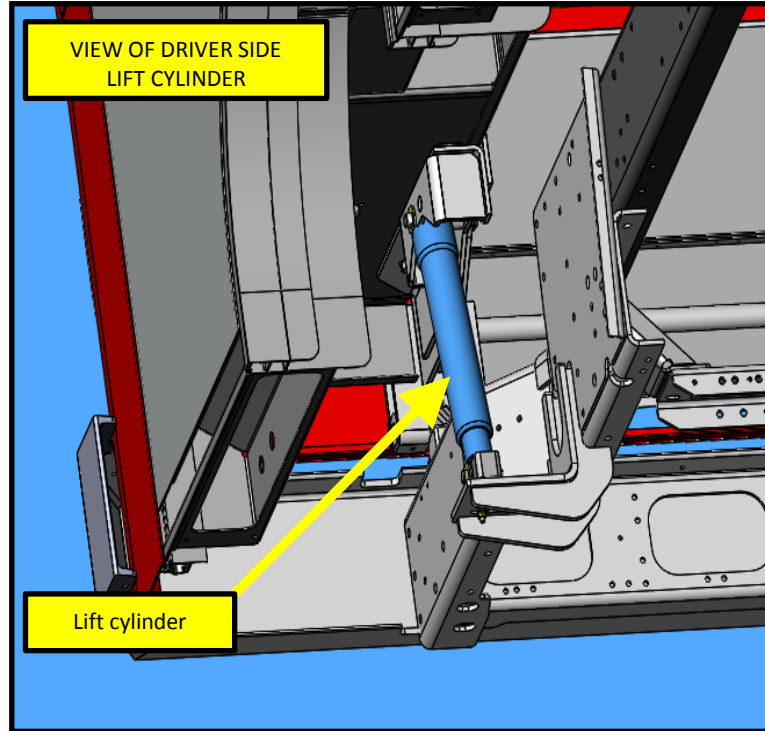

FIG. 3-1
4. Driver side lift cylinder viewed from underneath. Refer to FIG 3-1.